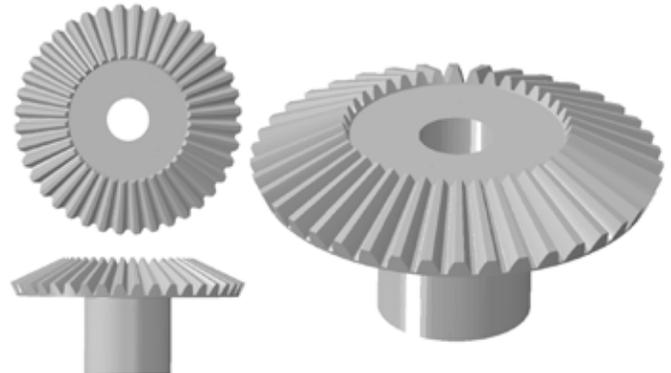

Figure 1: Top, front, and iso-view of bevel gear used in modeling study.
This article will use the heat-treatment simulation software DANTE to explore several processes and their effect on distortion and residual stress of a bevel gear. Figure 1 shows the CAD model of the bevel gear used. The gear has an outer diameter of 205mm, a bore diameter of 37.6mm, an axial length of 94.1mm, and 40 teeth. The processes and materials examined will be gas carburization/oil quenching and low-pressure carburization/high-pressure gas quenching of AISI 4320, and induction heating/spray quenching of AISI 4340. Assuming symmetric boundary conditions, only a single tooth is modeled. Figure 2(A) shows the CAD model of the single tooth used in the study, Figure 2(B) shows the single-tooth model meshed for finite element analysis (FEA), and Figure 2(C) shows a section view of the tooth, revealing the fine mesh layer near the surface required to properly capture the steep chemical, thermal, stress, and phase transformation gradients which occur near the surface of the component during a quench hardening process.